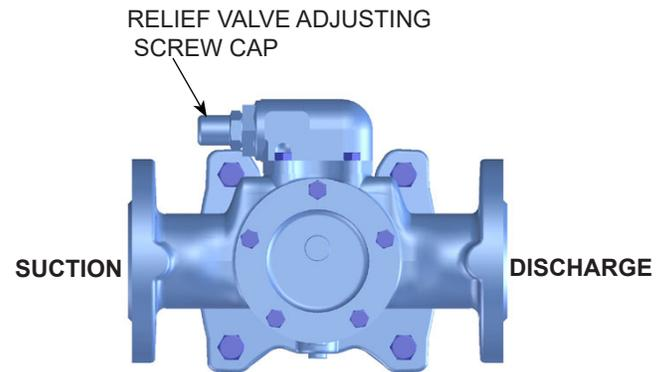

FIGURE 3
4. The relief valve adjusting screw cap must always point towards the suction side of the pump. See **Figure 3**. If the pump rotation is reversed, remove the pressure relief valve and turn end for end (see **PUMP ROTATION**, page 11 for additional information.